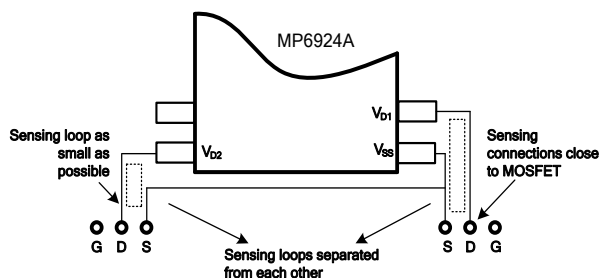

Figure 7: Sensing for V_D/V_S
3. Make the sensing loop as small as possible (see Figure 7).